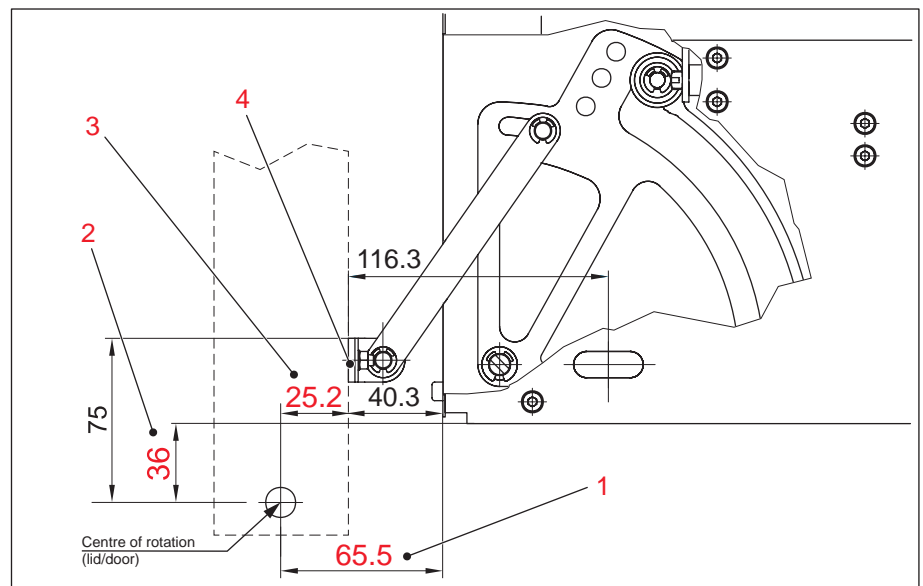

Figure 6: Functional dimensions which have to be maintained coercively (measurements in mm)
1. Screw on the device at the 4 elongated holes with hexagon head bolts M10 at the prepared fastening drill holes in such a way that the following functional dimensions are coercively maintained, see **Figure 6**:
- 65.5 mm between front panel of the device and centre of rotation of the lid/door of the switch gear cabinet (1).
- 36 mm between bottom side of the device and centre of rotation of the lid/door of the switch gear cabinet (2).
3. Make the lid/door connection (4) of the device with the lid/door of the switch gear cabinet, see **Figure 6**.